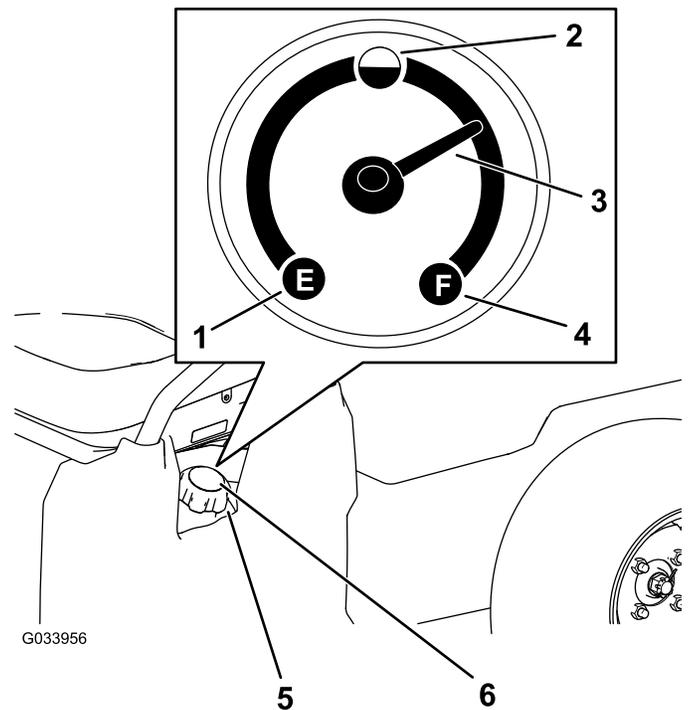

Figure 14
4. Clean the area around the fuel-tank cap (Figure 14).